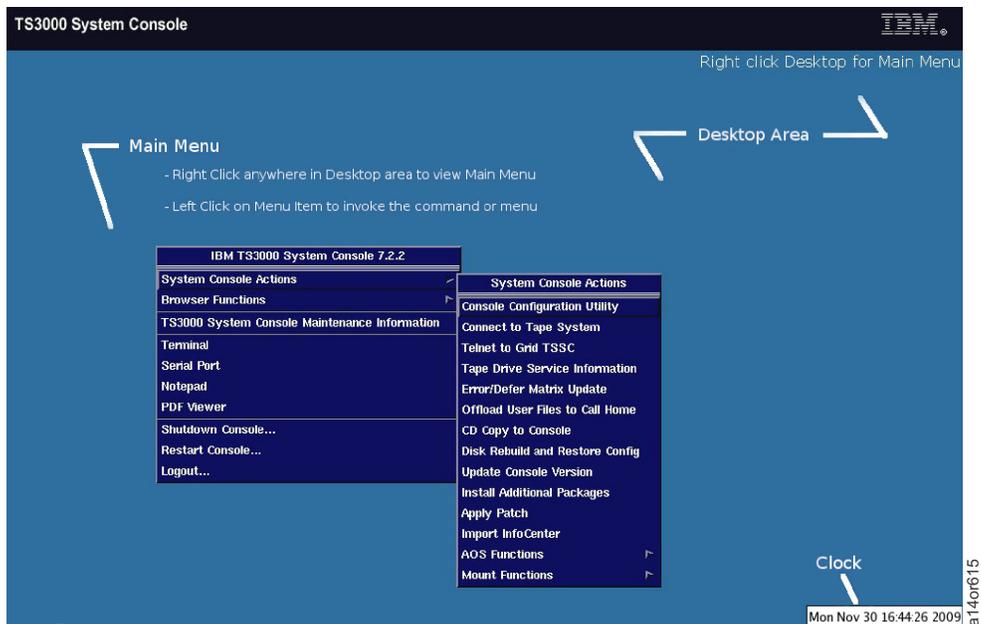

Figure 58. System Console Main Menu. Notice that the System Console Main Menu appears after you right-click inside the Desktop Area.
5. Login to the console using the ID and password posted on the screen. The System Console Main Menu shown in Figure 58 on page 48 appears.
1. Right-click from anywhere in the Desktop to view the Main Menu shown in Figure 58.